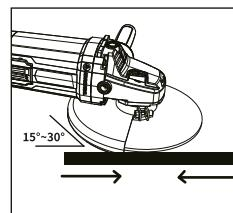

Fig 7
2. Generally, it is recommended to keep the grinding and cutting part of the wheel and disc within a range of 15 to 30 degrees relative to the surface of the processing object. (Fig 7)